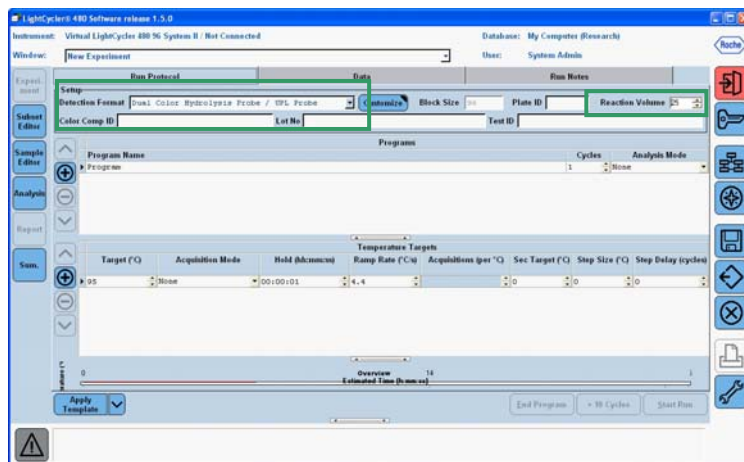

FIG.4
- In the **DETECTION FORMAT** field select **DUAL COLOR HYDROLYSIS PROBE/UPL PROBE** (Fig.4)